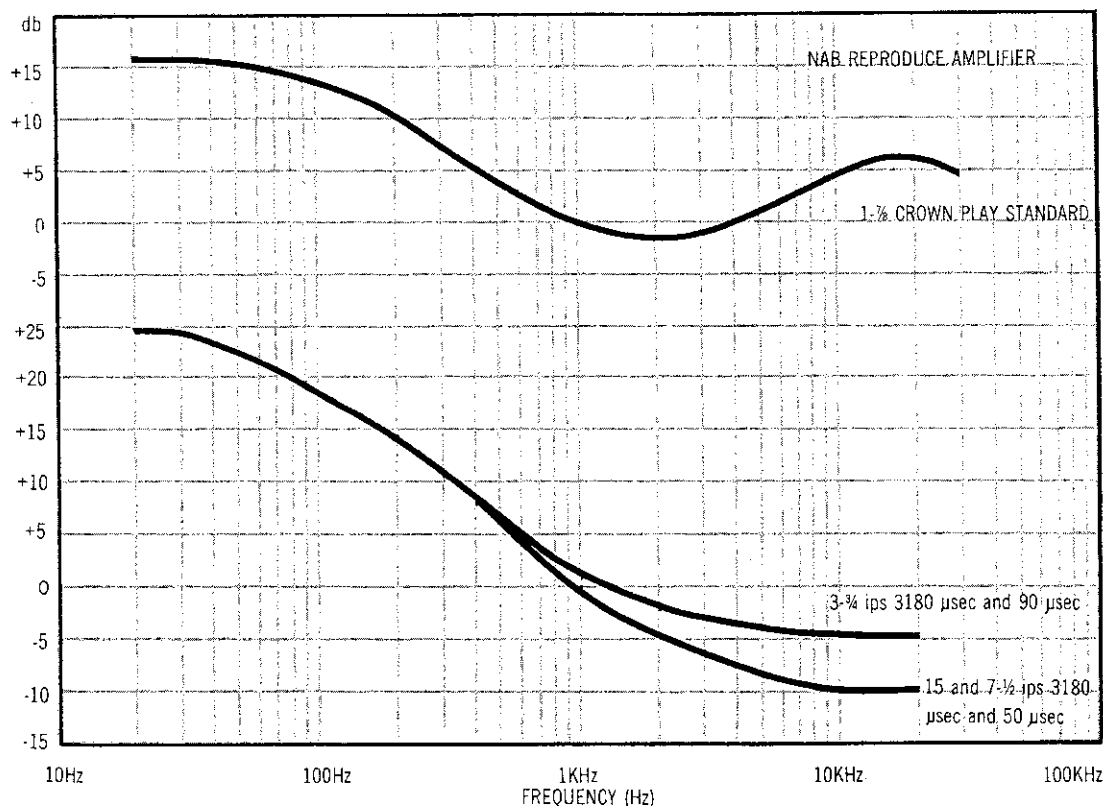

FIG. 10-9 REPRODUCE EQUALIZATION CURVES
Using standard alignment tapes for the appropriate speeds, set 10KHz for flat playback using appropriate controls (R203 or R204 on Main Board). Since there are no standard response curves for 1-7/8, satisfactory alignment can be achieved by disconnecting the playback and feeding a -50db signal directly into the electronics, and adjusting for a response according to the curves below. (See fig. 10-9).
2. Defective playamp. This may be checked by feeding a -50db signal into the playhead input and comparing output to standard play curves. Also check signal for distortion. (See fig. 10-9)